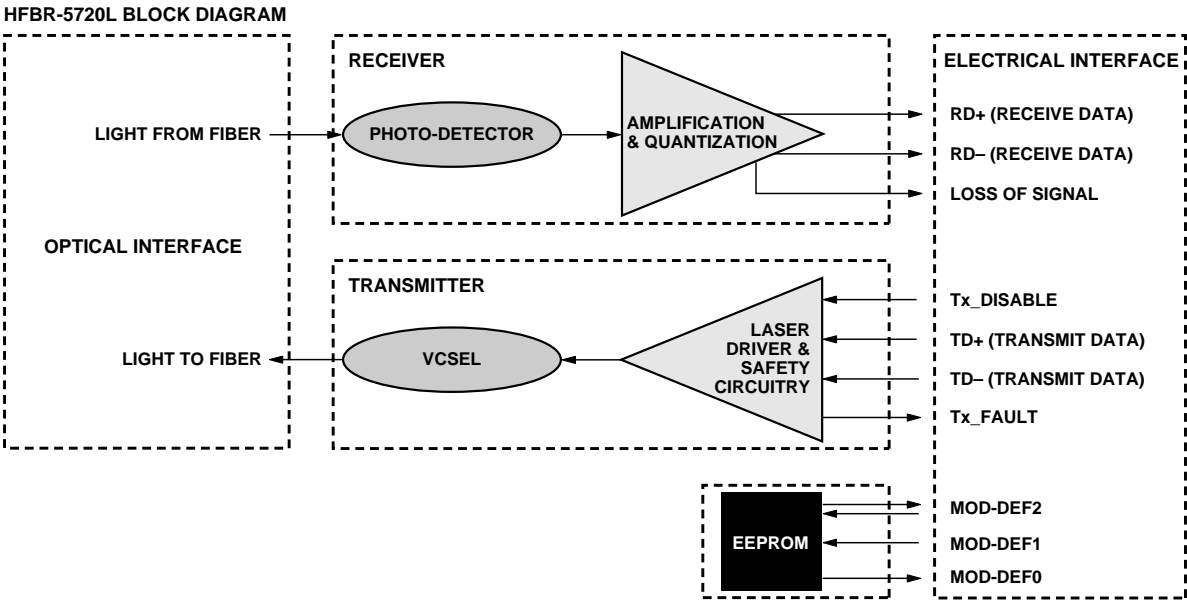
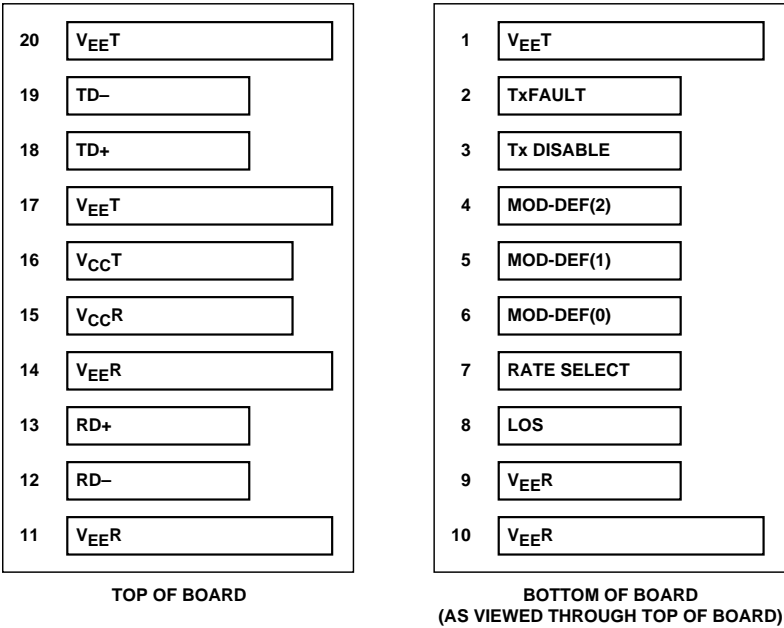

Figure 1. Transceiver functional diagram.
Figure 2. Connection diagram of module printed circuit board.
Figure 1 illustrates the major functional components of the HFBR-5720L. The connection diagram of the module is shown in Figure 2. Figure 7 depicts the external configuration and dimensions of the module.
contact sequencing involves (1) Ground, (2) Power, and then (3) Signal pins, making contact with the host board surface mount connector in that order. This printed circuit board card-edge connector is depicted in Figure 2.
Agilent's HFBR-5720L fiber-optic transceiver is designed to accept industry standard differential signals. In order to reduce the number of passive components required on the customer's board, Agilent has included the functionality of the transmitter bias resistors and coupling capacitors within the fiber optic module. The transceiver is compatible with an "AC-coupled" configuration and is internally terminated. Figure 1 depicts the functional diagram of the HFBR-5720L.